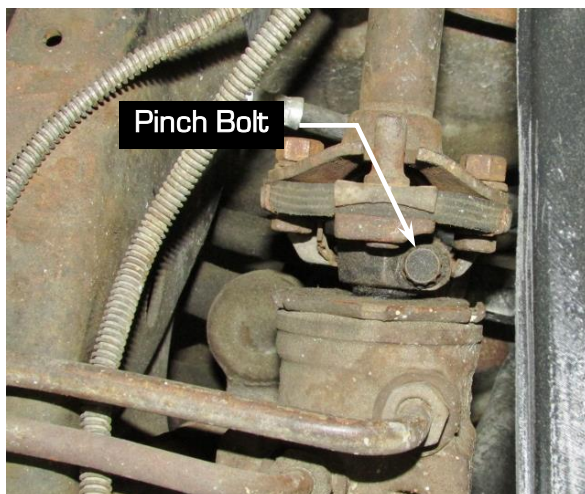

Figure 2 - Remove Pinch Bolt
3. Remove the pinch bolt connecting the rag joint to the steering gear. Remove the hardware connecting the rag joint to the steering shaft (Figure 2).